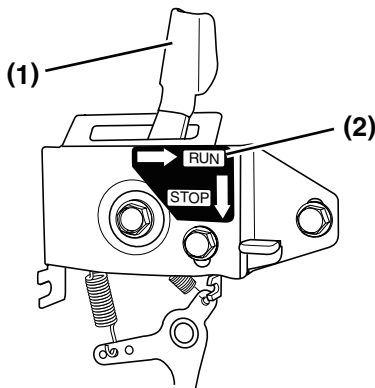

Figure 11
2. If your engine speed control is similar to **Figure 11** slide the engine speed control lever (**Figure 11, (1)**) to the RUN position or (**Figure 11, (2)**).